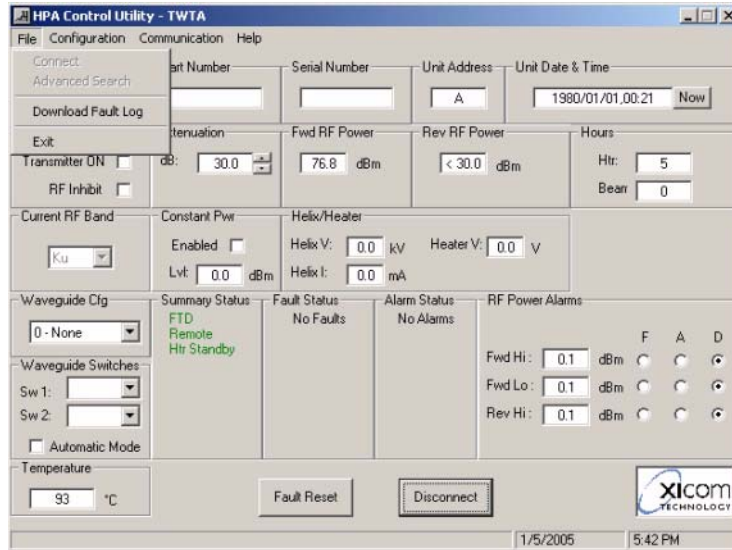
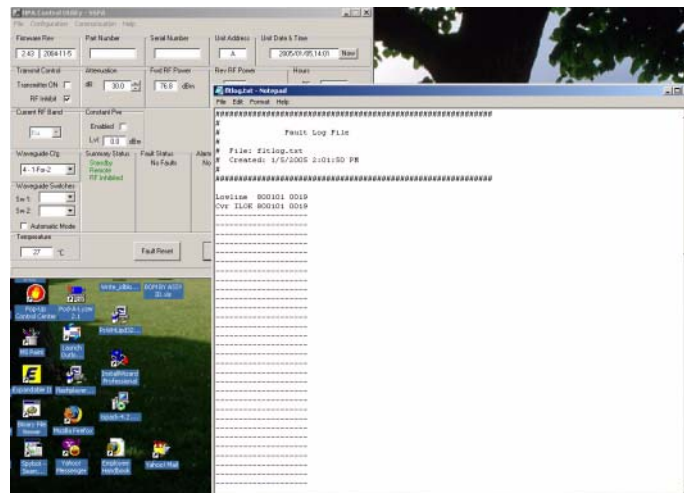

Figure 4, Primary User Interface – File Menu when connected
Figure 5, Display of Fault Log
3. Refer to Figure 4 and Figure 5 on page 8. When the program is connected to an amplifier, the amplifier’s fault log may be viewed by Selecting :